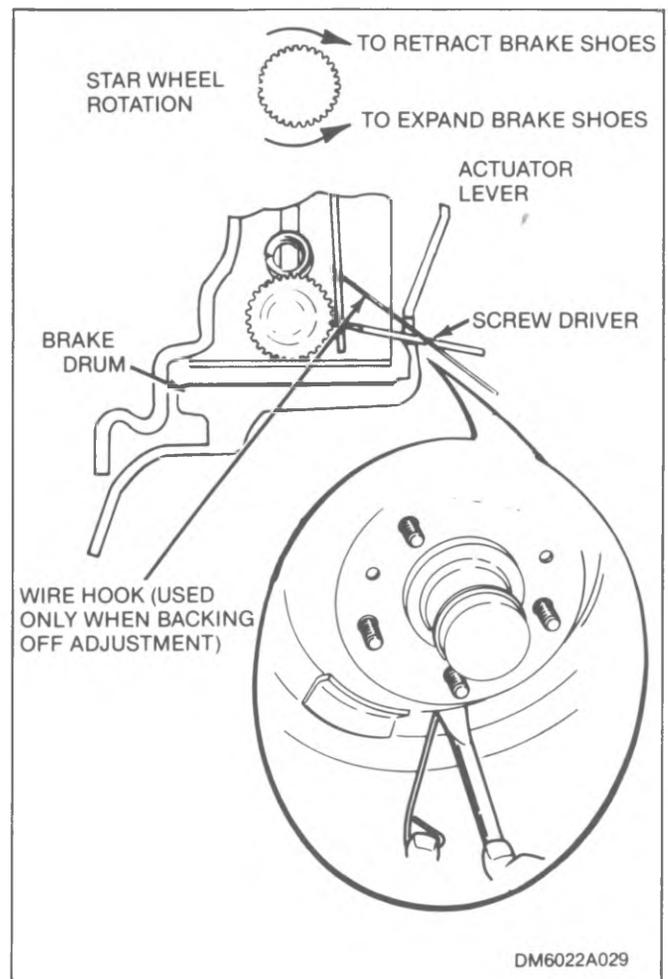
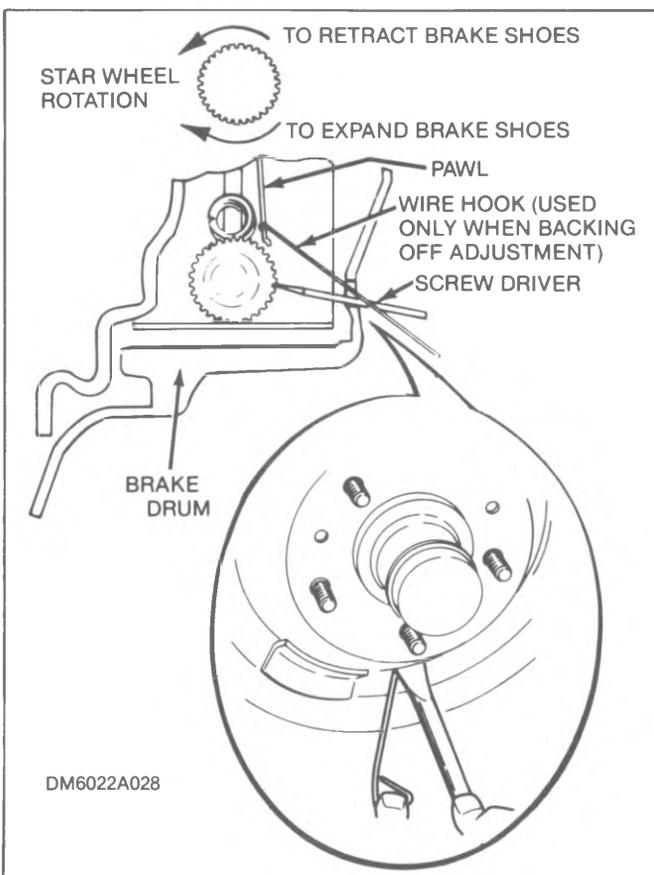

Figure 3-8. Manual Adjustment Through Brake Drum—Release Actuated Adjuster
Figure 3-7. Manual Adjustment Through Brake Drum—Apply Actuated Adjuster
3. **ADJUSTMENT THROUGH BRAKE DRUM.** To expand the brake shoes, use a screwdriver to turn the star wheel in the direction shown in figure 3-7 (apply actuated adjuster) or figure 3-8 (release actuated adjuster). Expand the shoes to produce a heavy drag on the wheel. To retract the brake shoes, use a wire hook to move the pawl or actuator lever away from star wheel (see figure 3-7 or 3-8), back off star wheel approximately 30 notches.